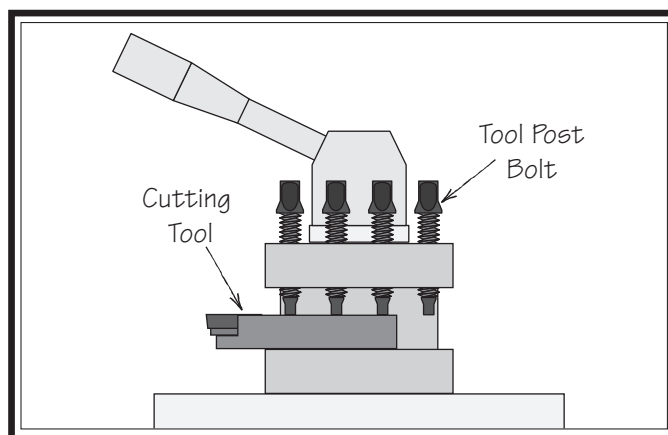

Figure 66. Example of tool mounted in tool post.
1. Adjust the tool post bolts so that the cutting tool can fit underneath them (see **Figure 66**).